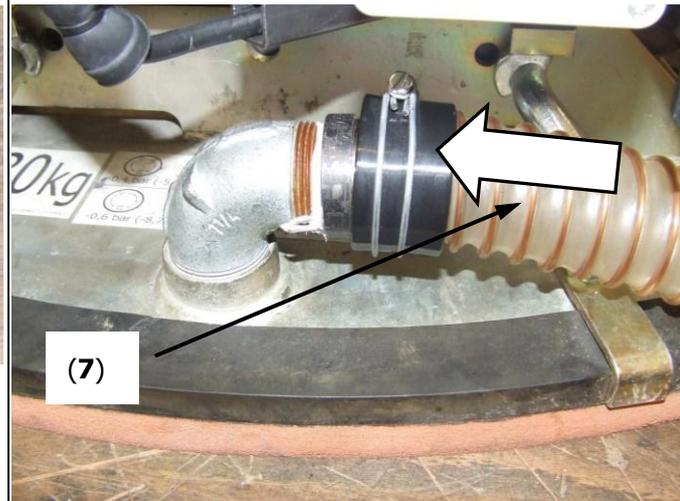

Fig. 9
- Connect the suction hose (7) direct at the suction plate (→ Fig. 9)